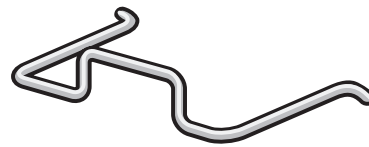
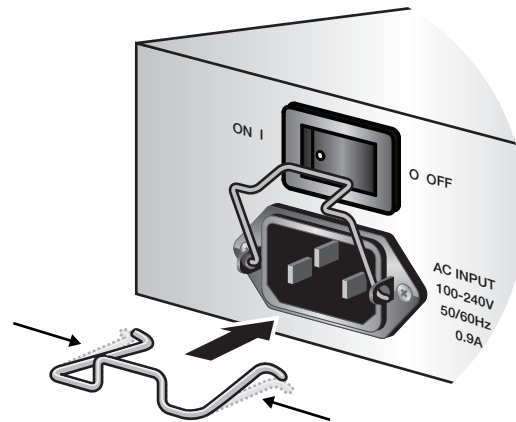

Figure 2. Power cord retaining clip
Figure 3. Inserting the retaining clip into the retaining bracket
1. Locate the power cord retaining clip, shown in Figure 2.
2. Install the clip on the AC power connector on the power supply module. With the 'u' of the clip facing down, press the sides of the clip forward the center and insert the short ends into the holes in the retaining bracket, as shown in Figure 3.
The router has a single fan which pulls air into the chassis through the intake air vents to cool the chassis components. The air is discharged through the exhaust air vents on the top of the chassis front panel. See Figure 1 on page 15 and Figure 2 on page 15 for the location of the exhaust vents. See Figure 3 on page 16 for the location of the intake air vents.